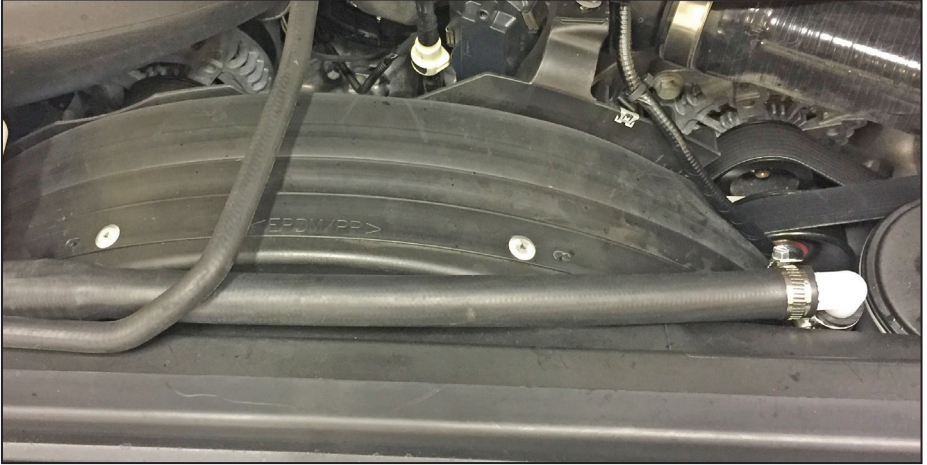

Figure 95 — Installing the secondary coolant hose
- ☐ Trim the hose running from the secondary coolant reservoir as required and connect it to the 90° barb (Figure 95).